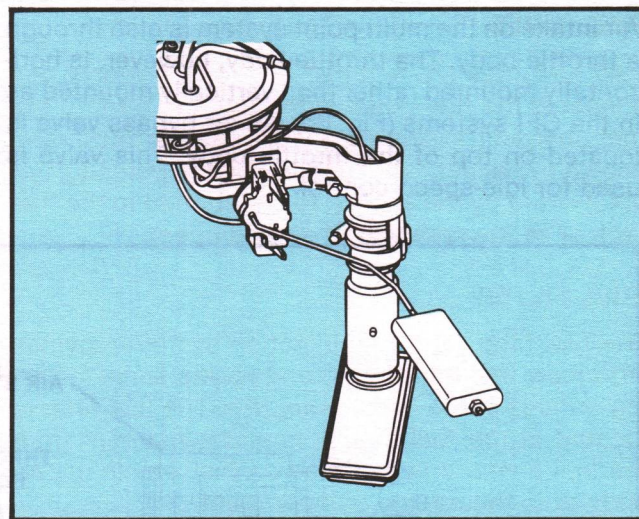

Figure 67. Low-Pressure, In-Tank Fuel Pump
- The low-pressure, in-tank system (Fig. 67) uses a low-pressure pump for the central fuel injection system.